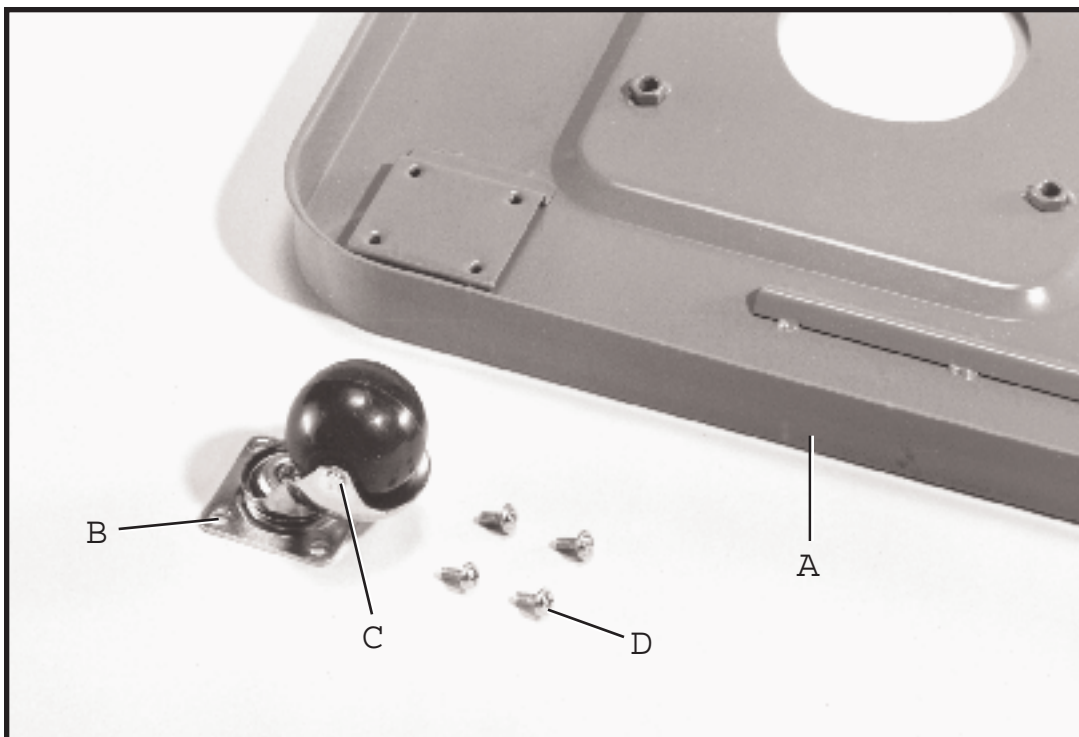
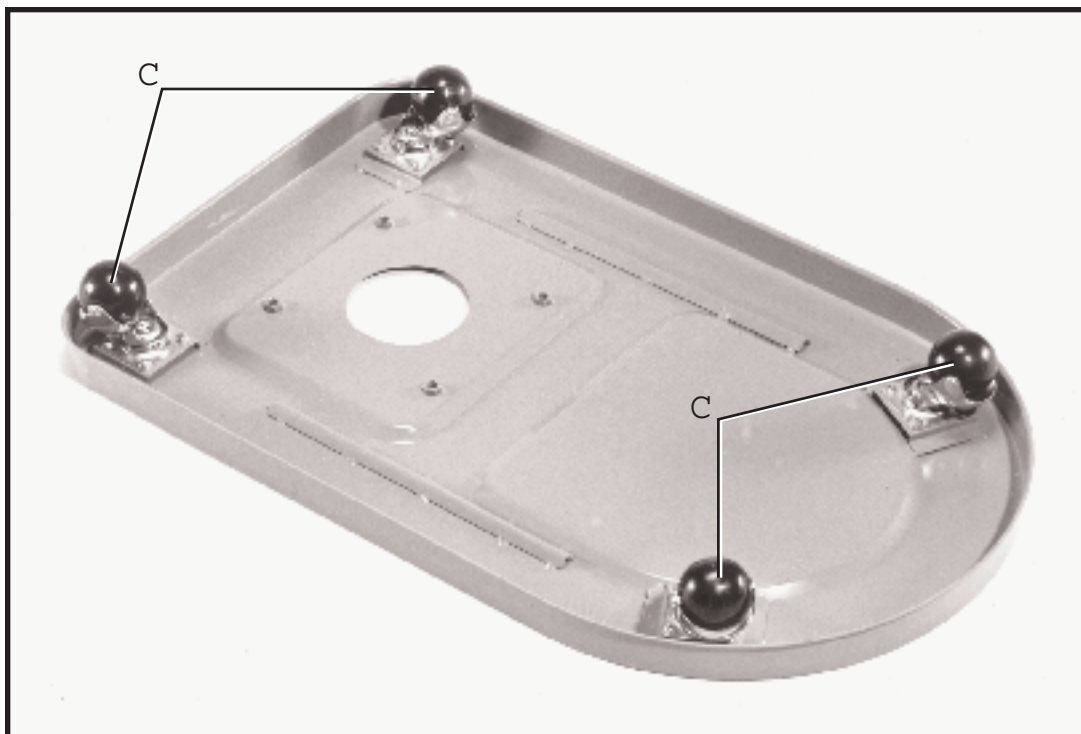

Fig. 3
Fig. 4
Turn base (A) Fig. 3, over. Align four holes (B) in caster with holes at the corner of the base and assemble caster (C) to base with four pan head screws (D). Assemble the remaining three casters (C) Fig. 4, to the base in the same manner.